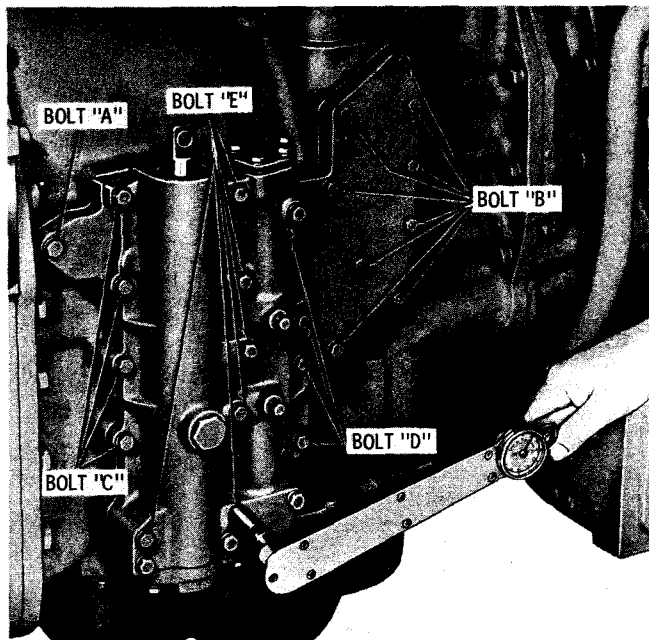

Fig. 7-98. Bolt locations for 6-speed control valve body assembly
(7) Install ten 3/8-16 x 1 1/2-inch bolts with lockwashers in locations A and B (fig. 7-98). (Start bolts in two locations and remove the guide bolts.) Install eight 3/8-16 x 2-inch bolts in locations C and D. Install six 3/8-16 x 3 1/2-inch bolts in location E. Tighten all bolts to 26 to 32 pound feet torque.